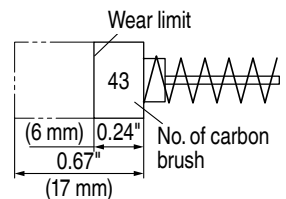

Fig. 18
3. Inspecting the carbon brushes (Fig. 18)
Use HITACHI carbon brush No. 43 indicated in Fig. 18.